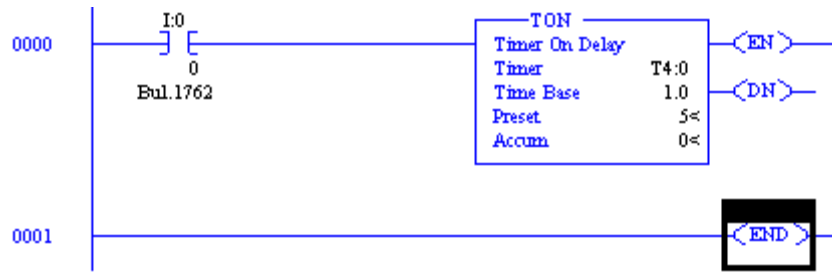

Figure 55. Rung with a Timer-on-Delay instruction.
5. The created rung should look like the one shown in Figure 55.